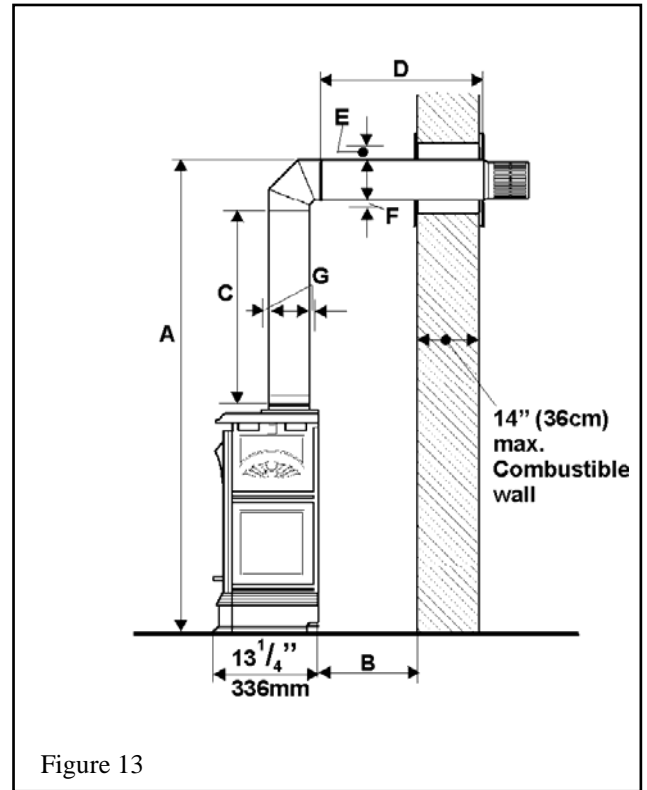

Figure 13
4.2.10. Top vent connection, vertical vent rise with horizontal rear termination (Fig.13)
Can be used with either #551DVK standard vent kit or #984 Dura-vent terminal cap and accessories. Adapter #817VAK, one 90° vent elbow #990B and Dura-vent pipe lengths will be required. (See venting options section of this manual). *No more than two 90° elbows must be used.* The location requirements are (See figure 13):-
4.2.11. Top vent connection, vertical vent rise with horizontal side termination (Figs.13 & 14)
4.2.13. Top vent connection, corner location, vertical rise, horizontal termination, 45° pipe bend (Figs 13 & 15)
4.2.14. Top vent connection, corner location, vertical rise, straight horizontal termination (Figs 13 & 16)